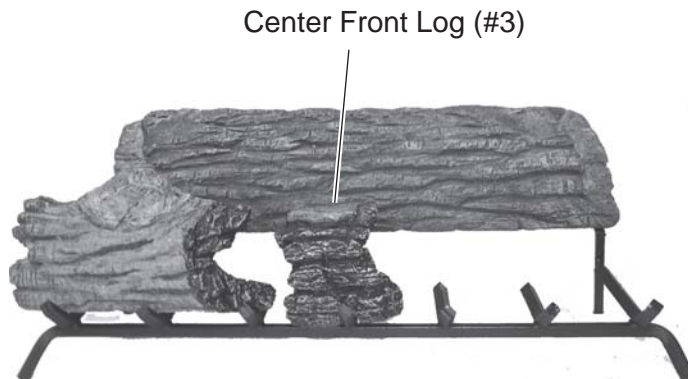

Figure 37 - Placing Center Front Log (#3)
4. Place center front log #3 on middle grate prong. *See Figure 37.*